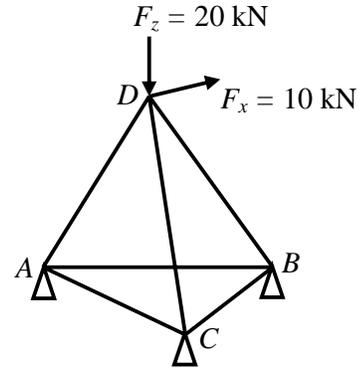
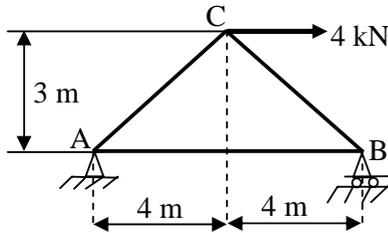

Figure.2.
Figure 3.
- b) A space truss shown in Figure.2 is subjected to a load  $F_x = 10$  kN along positive  $x$ -direction and a load  $F_z = 20$  kN along negative  $z$ -direction acting simultaneously at joint  $D$ . The co-ordinates of the joints  $A, B, C$  and  $D$  are  $(0,6,0)$  m,  $(5,-6,0)$  m,  $(-6,-6,0)$  m,  $(0,0,10)$  m. Find the forces in all the members of the space truss. All the joints are ball and socket joints and frictionless. Take  $E = 200$  GPa and cross-sectional areas of all members as  $30$  mm2.
- (OR)
- 23.a) The cross-sectional area of each member of the truss shown in Figure.3 is  $A = 400 \text{ mm}^2$  and  $E = 200 \text{ GPa}$ . Determine the vertical displacement of joint  $C$  if a  $4 \text{ kN}$  force is applied to the truss at  $C$ . Use unit load method or Castigliano's theorem.